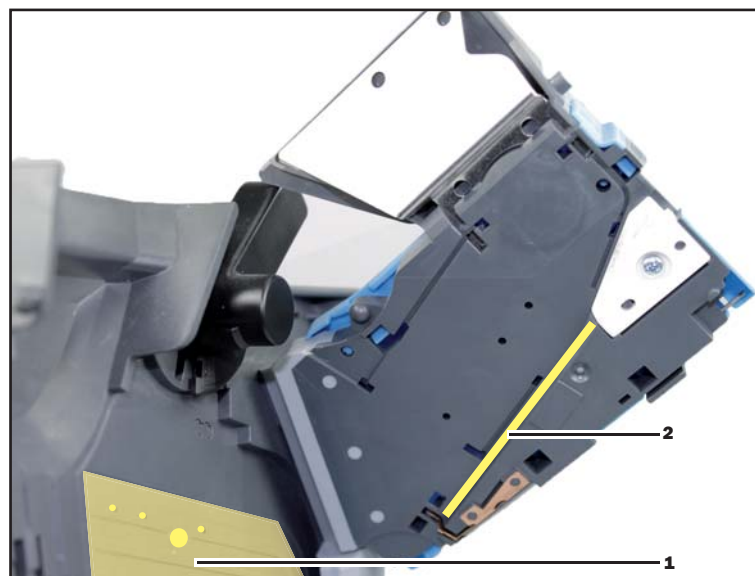

Fig. 16: Surfaces and parts to be cleaned in the measurement and validation area
**Any possible film of dirt in the highlighted areas [Fig. 16/1, 2] must be removed residue-free. Doing this prevent fluid from entering the device.**
- 6** Make sure that in particular the measurement surface with the inductive coil and the three optical sensors [Fig. 16/1] as well as the runway [Fig. 16/2] on the flight deck are clean. In case these areas are not clean, repeat steps 4 and 5 and check again for cleanliness.